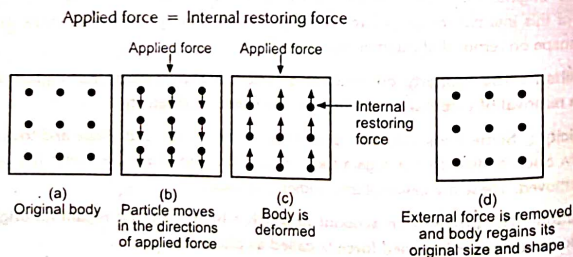

Fig. 2.1
1. Consider an elastic body as shown in Fig. 2.1. Molecules are at equal distances from each other. There is a force of attraction between the molecules. Hence, molecules are at equal distances.